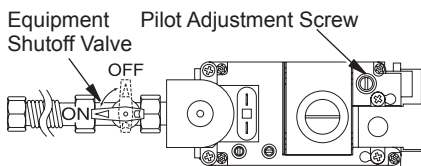

Figure 42 - Turning Equipment Shutoff Valve to the OFF Position
5. Turn equipment shutoff valve clockwise to the OFF position (see Figure 42). Do not force.
6. Wait five (5) minutes to clear out any gas. Then smell for gas, including near the floor. If you smell gas, STOP! Follow "B" in the safety information in column 1. If you don't smell gas, go to the next step.
- Turn adjustment screw marked PILOT clockwise to decrease or counterclockwise to increase flame to proper size (see Figure 42, page 28). Do not remove adjustment screw.